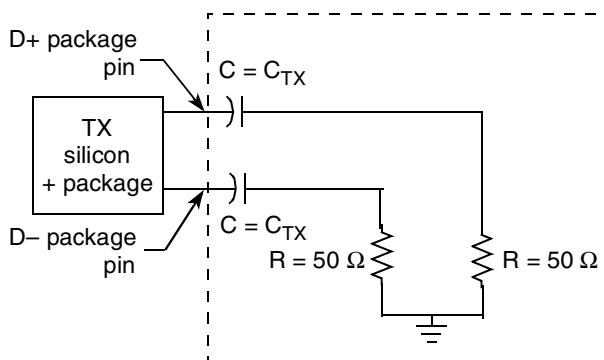

Figure 37. Test/Measurement Load
2. Specified at the measurement point into a timing and voltage test load as shown in Figure 37 and measured over any 250 consecutive Tx UIs.
2. Specified at the measurement point and measured over any 250 consecutive UIs. The test load in Figure 37 must be used as the Rx device when taking measurements. If the clocks to the Rx and Tx are not derived from the same reference clock, the Tx UI recovered from 3500 consecutive UI must be used as a reference for the eye diagram.